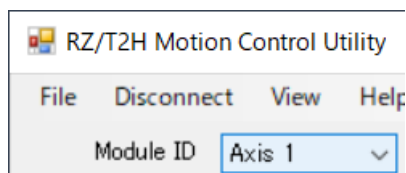

Figure 4-2 "Module ID" Drop-down List
- (8) Select the control target (axis number) from the "Module ID" drop-down list (Figure 4-2).
- (14) Select the control target (axis number) from the "Module ID" drop-down list (Figure 4-2).